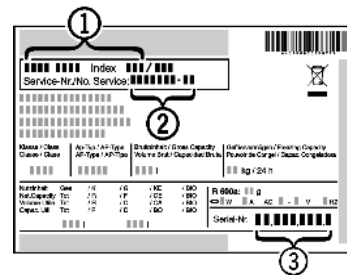

Fig. 11
- ▶ Read the appliance designation *Fig. 11 (1)*, service No. *Fig. 11 (2)* and serial No. *Fig. 11 (3)* off the type plate located inside the appliance on the left-hand side.
- ▶ Notify the customer service, specifying the fault, appliance designation *Fig. 11 (1)*, service No. *Fig. 11 (2)* and serial No. *Fig. 11 (3)*.